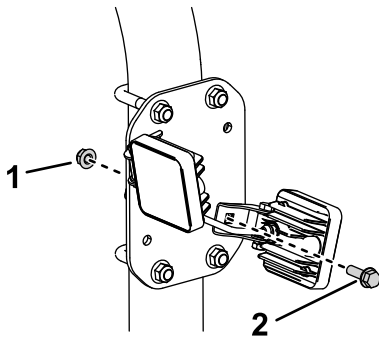

Figure 1
1. Remove the rear nuts and bolts from the work light bracket as shown in Figure 1.